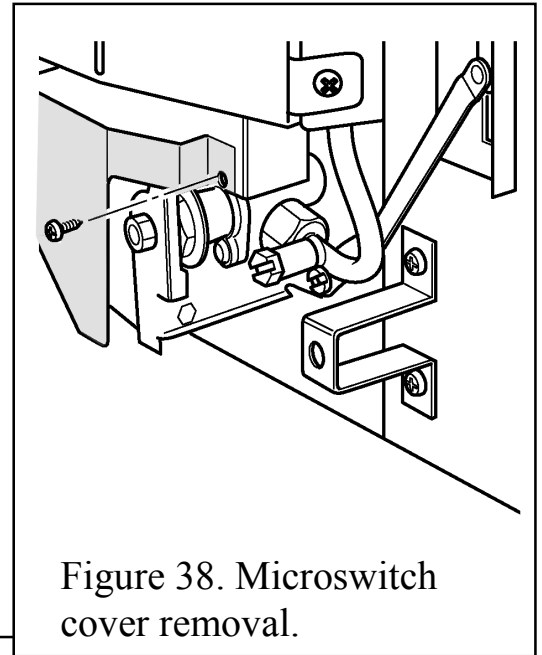

Figure 38. Microswitch cover removal.
See figures 38 & 39.
2. Detach the microswitch cover by removing one screw and pulling clear of the location lug. See figure 38.
See figures 38,39 & 40.